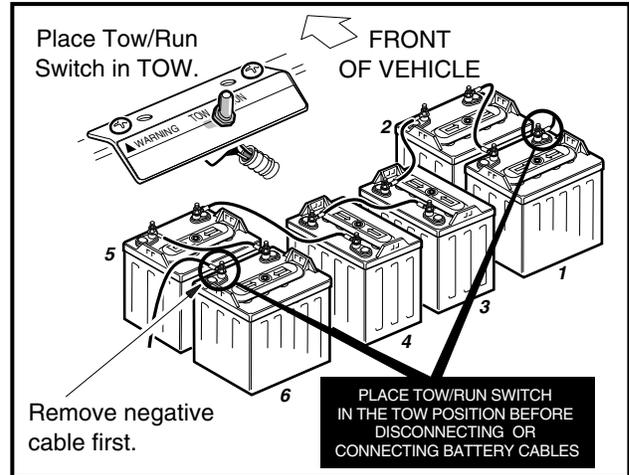

Figure 2 IQ System Electric Vehicle
- To avoid unintentionally starting the vehicle, disconnect the batteries as shown (Figure 2).